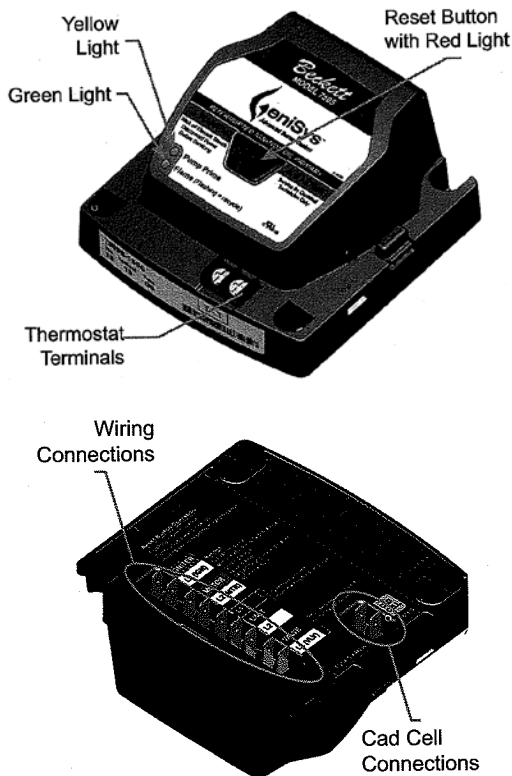

Figure 19: GeniSys 7505 Oil Primary Terminals, LED's and Reset Button
- a. **GeniSys 7505 Control Features**, see Figure 19.